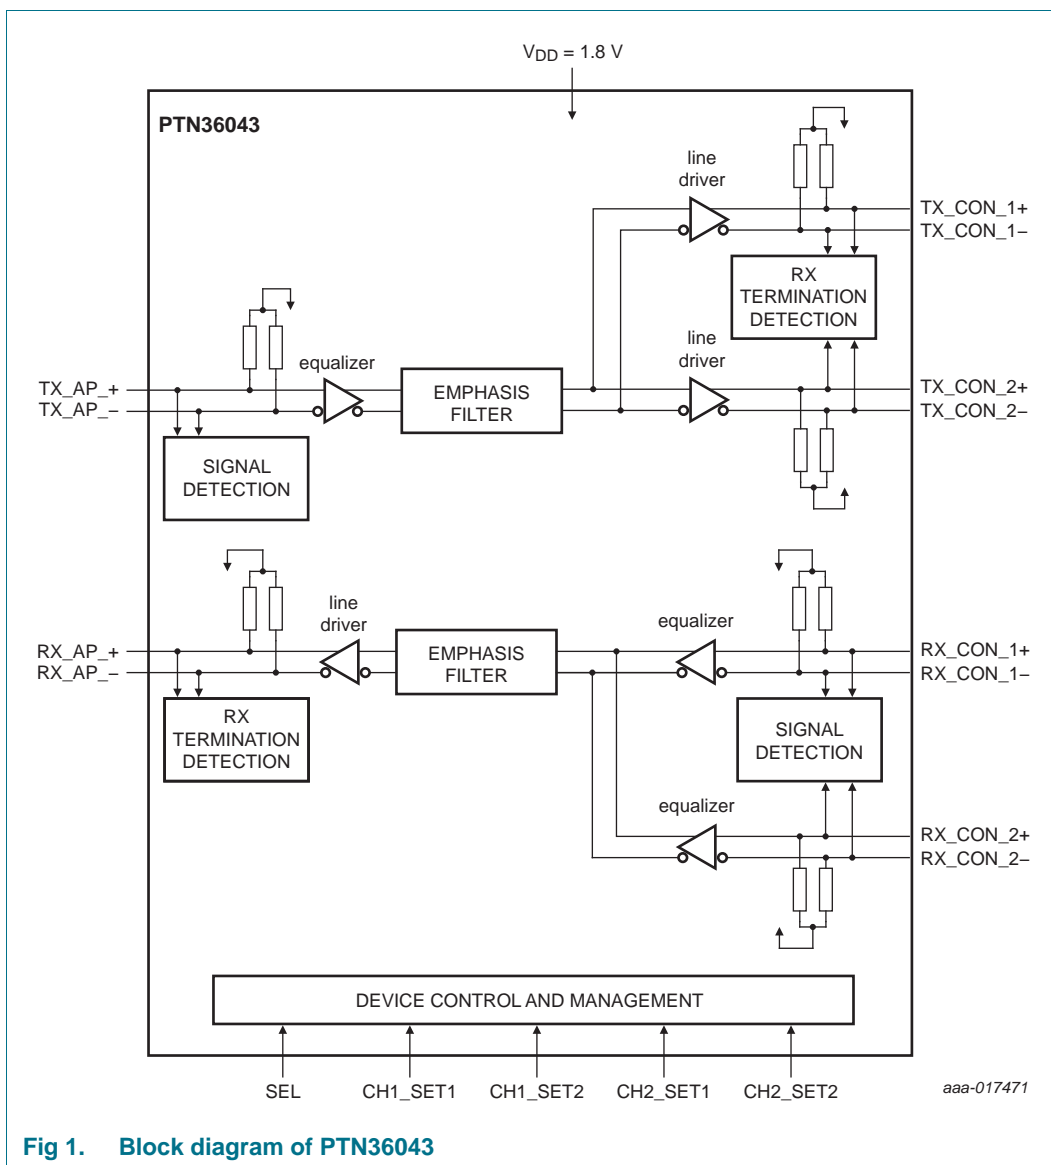

Fig 1. Block diagram of PTN36043
Refer to Figure 1 “Block diagram of PTN36043”.
- **Active state** wherein device is fully operational, USB data is transported on either port 1 or port 2 in Figure 1. In this state, USB connection exists and the Receive Termination indication remains active. But there is no need for Receive Termination detection.